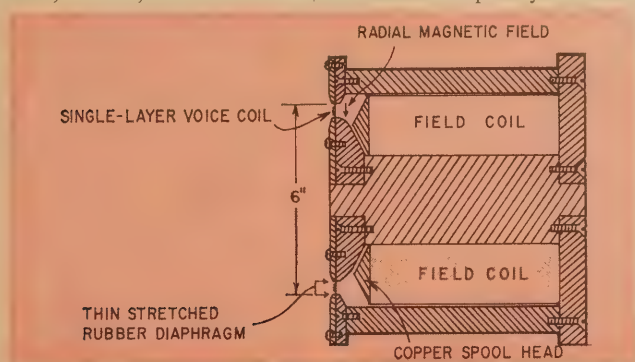

Fig. 2—Annular (ring) speaker of the 1920's.
3. Diaphragm of annular form (Fig. 2)